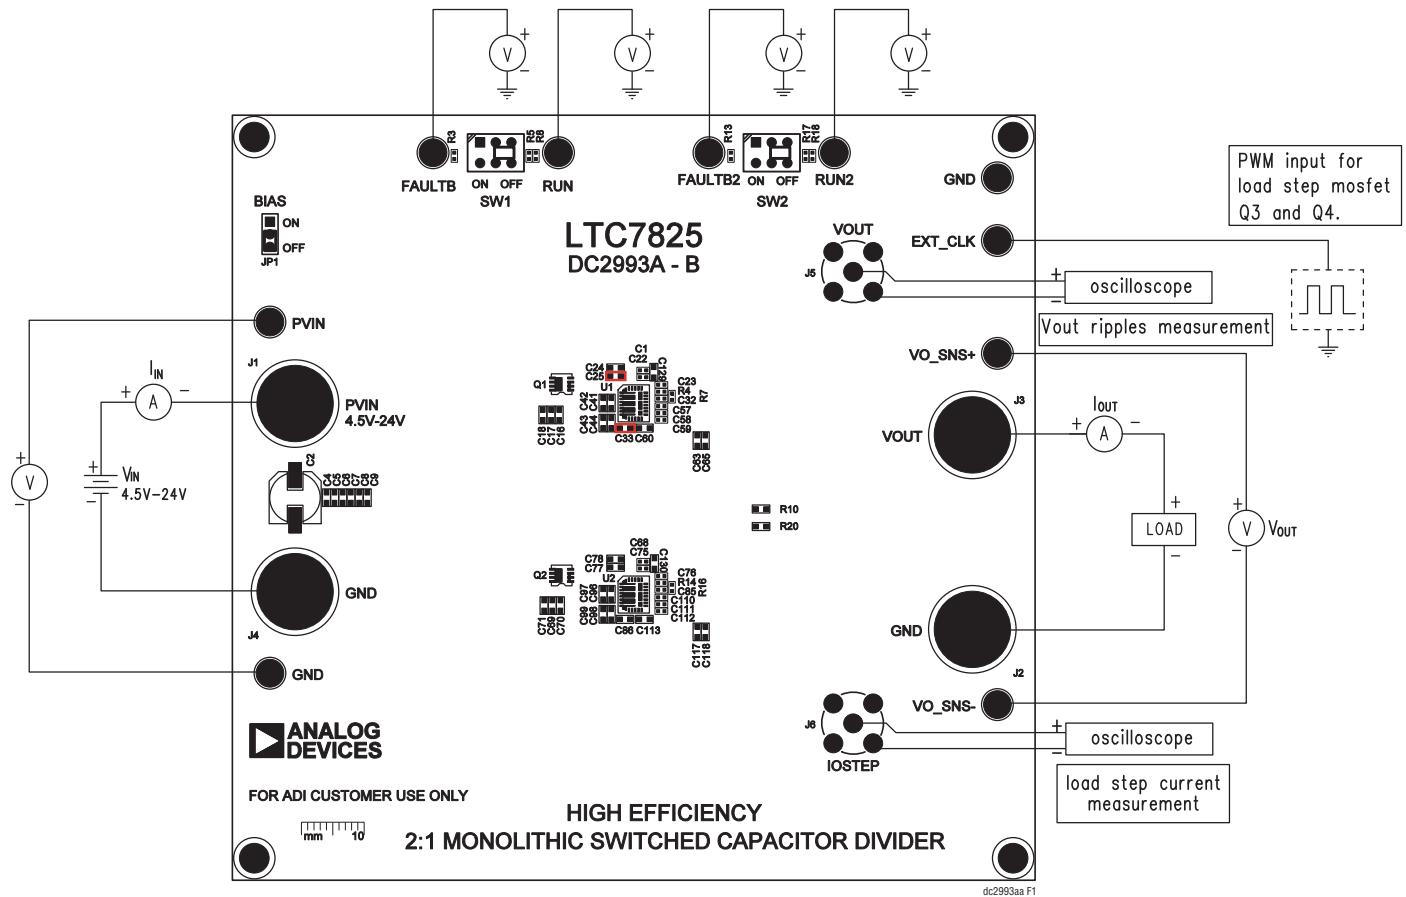

Figure 1. Proper Measurement Equipment Setup
Demonstration circuit DC2993A-B is easy to setup for evaluating the LTC7825. See Figure 1 for the proper measurement equipment setup and follow the procedure below.
2. Connect the output loads between VOUT and GND (initial load: no load). See Figure 1.